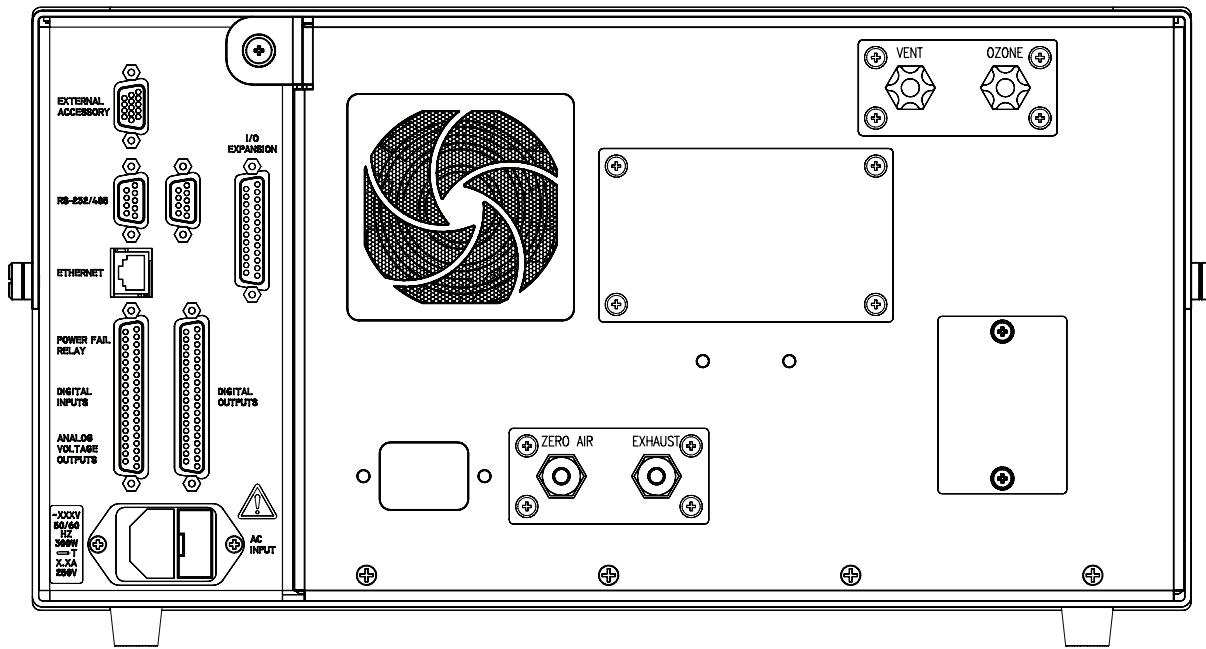

Figure 2-3. Model 49*i* Primary Standard Rear Panel
1. Connect the zero air supply to the ZERO AIR bulkhead on the rear panel (Figure 2-3). All tubing should be constructed of FEP Teflon®, 316 stainless steel, borosilicate glass, or similar tubing with an OD of 1/4-inch and a minimum ID of 1/8-inch. The length of the tubing should be less than 10 feet.